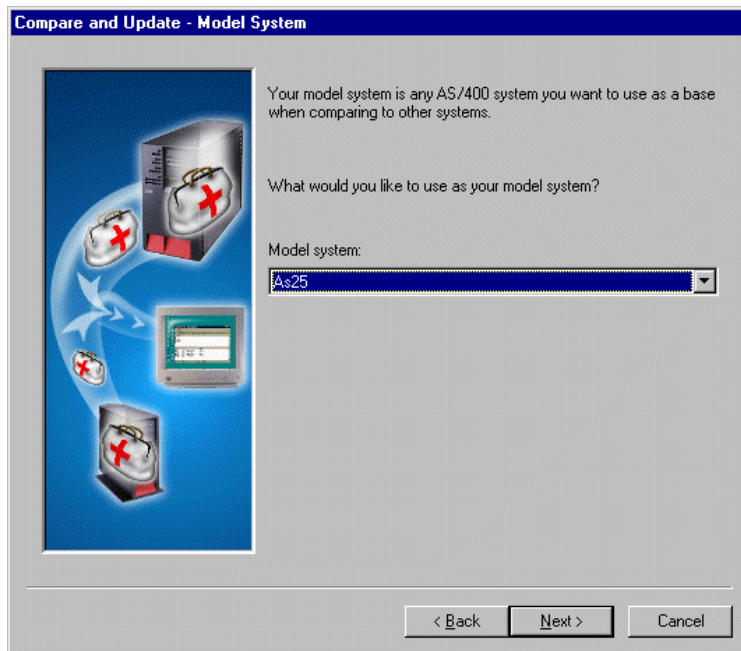

Figure 90. Compare and Update wizard: Model System selection
5. Follow the wizard's instructions to compare and update the systems. You are presented with a series of windows containing readily understandable prompts and questions, such as the example shown in Figure 90 on page 114.